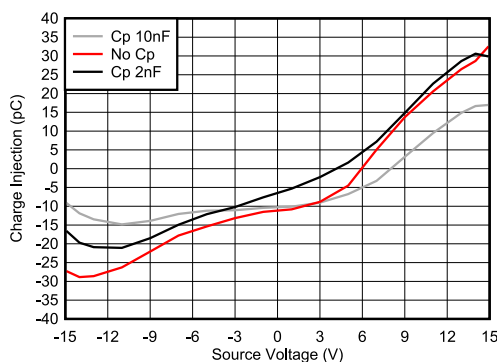

图 8-2. Charge Injection Compensation
The TMUX7219 contains specialized architecture to reduce charge injection on the source (Sx). To further reduce charge injection in a sensitive application, a compensation capacitor (Cp) can be added on the drain (D). This will ensure that excess charge from the switch transition will be pushed into the compensation capacitor on the drain (D) instead of the source (Sx). As a general rule, Cp should be 20x larger than the equivalent load capacitance on the source (Sx). 图 8-2 shows charge injection variation with source voltage with different compensation capacitors on the drain side.